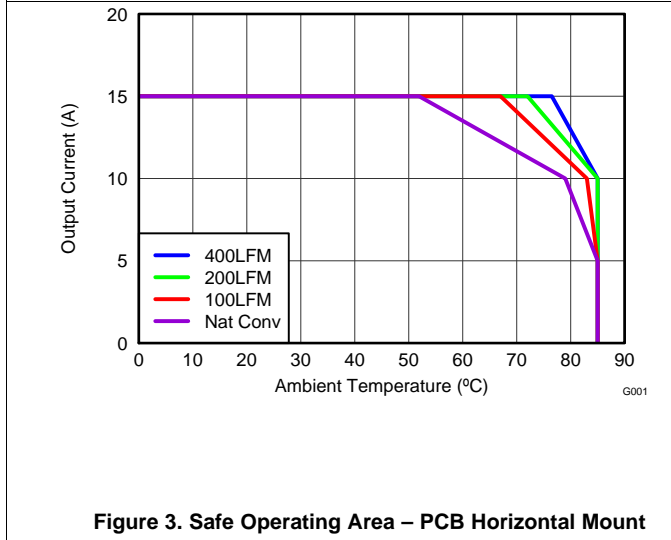
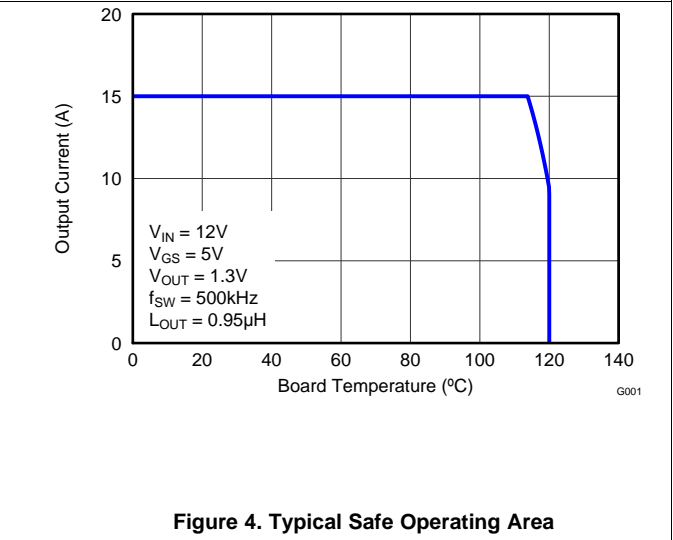

Figure 3. Safe Operating Area – PCB Horizontal Mount
Figure 4. Typical Safe Operating Area
$T_J = 125^{\circ}\text{C}$, unless stated otherwise. For Figure 3 and Figure 4, the Typical Power Block System Characteristic curves are based on measurements made on a PCB design with dimensions of 4 inches (W) x 3.5 inches (L) x 0.062 inch (H) and 6 copper layers of 1 oz. copper thickness. See Application and Implementation for detailed explanation.
$T_J = 125^\circ\text{C}$, unless stated otherwise. For Figure 3 and Figure 4, the Typical Power Block System Characteristic curves are based on measurements made on a PCB design with dimensions of 4 inches (W) x 3.5 inches (L) x 0.062 inch (H) and 6 copper layers of 1 oz. copper thickness. See Application and Implementation for detailed explanation.
The SOA curves in the CSD87381P data sheet provides guidance on the temperature boundaries within an operating system by incorporating the thermal resistance and system power loss. Figure 3 to Figure 4 outline the temperature and airflow conditions required for a given load current. The area under the curve dictates the safe operating area. All the curves are based on measurements made on a PCB design with dimensions of 4 inches (W) × 3.5 inches (L) × 0.062 inch (T) and 6 copper layers of 1 oz. copper thickness.